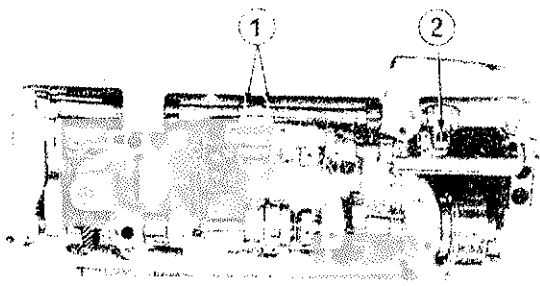
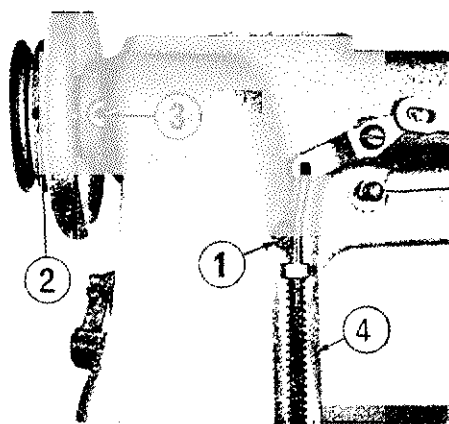
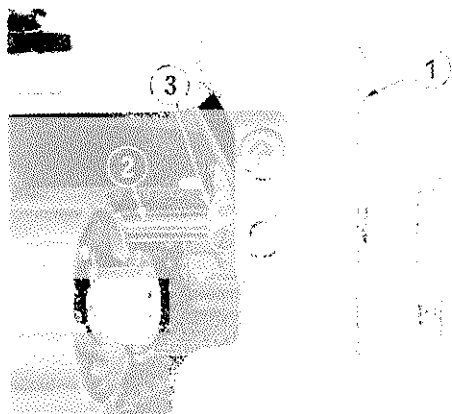

Fig. 18
Fig. 24
Fig. 25
When the stitch length is set at "0" and if the relative position of walking bar with the presser bar is not right, loosen the 2 screws of the feed rock shaft crank (Fig. 18 133), match the clearance between the presser bar and the walking bar at 8.54 mm ($21/64''$) and then tighten the screws.
Also, to set the correct relative position of the needle bar frame with that of the feed dog, first, set the stitch length at "0", then loosen the screw (Fig. 18 (2)) of the driving rod crank and loosen the screw of the needle bar shaft rear crank from the hole (Fig. 25 (1)) in the back of the arm. And further, when the needle comes near the center or front half of the hole of the feed dog, and holding this position make the driving rod crank parallel to the surface of the bed and tighten the 2 screws.
Remove the face plate and the needle bar frame, insert a screw driver into the hole (Fig. 24 1). loosen the screw of the needle bar frame rock shaft crank and take out the needle bar frame rock shaft.
Loosen the 2 set screws of the belt groove of the hand wheel (Fig. 24 2) and pull out the hand wheel. Then, loosen the main shaft rear bushing set screw (Fig. 24 3), remove the top cover, loosen the 2 screws of the main shaft rear bushing at the right side of the upper sprocket wheel and draw out the main shaft rear bushing from the frame.
Then, remove the reverse feed control lever (Fig. 25 1). To do this, remove the tension spring which is hooked to the top cover, tilt the machine and by loosening the 2 screws (Fig. 25 3) of the reverse feed control lever shaft, remove the screw (Fig. 24 4) of the reverse feed control lever shaft. After that, pull out the lever shaft together with the reverse feed control lever.